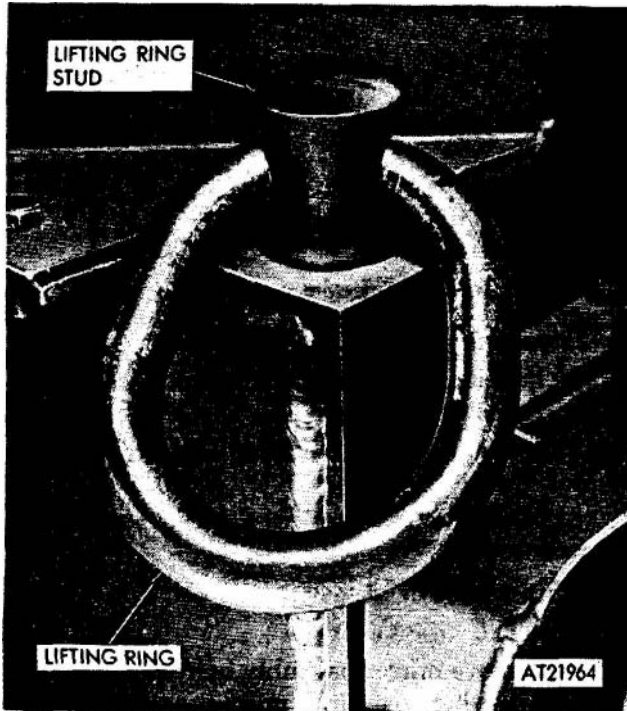

Figure 2-312. Vehicle lifting rings, removal and installation.
a. Removal. Remove lifting ring from stud mounting hole in vehicle (fig 2-312).
b. Installation. Apply anti-seize lubricant (MIL-T-5544B) to threaded portion of lifting ring stud. Install lifting ring in threaded hole of vehicle structure and tighten securely (fig 2-312).